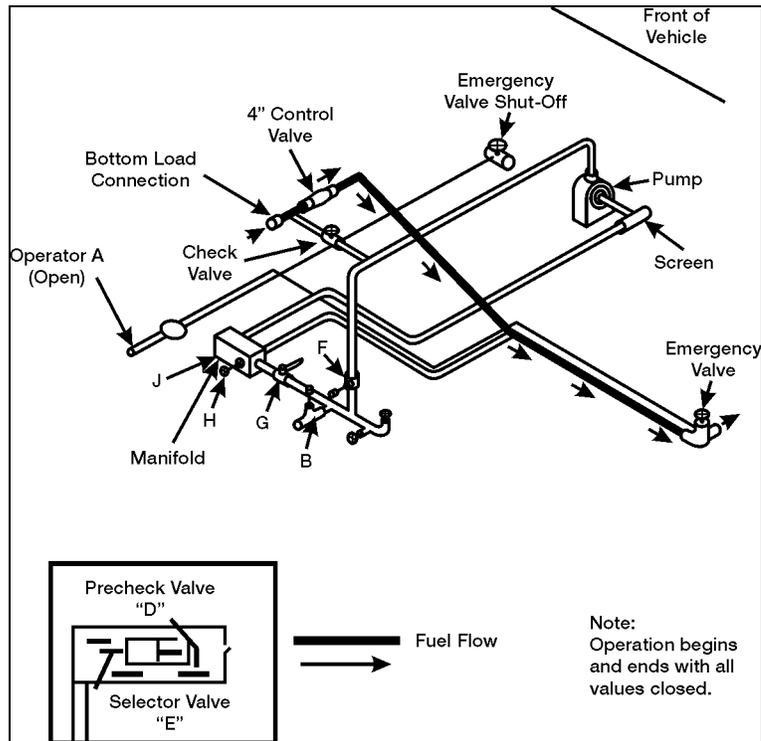

Figure 3-70. Self-Load Flow Diagram
- (8) After the flow has begun, open the pre-check valve to pre-check the shutoff float. Flow should stop after about 20 to 25 seconds to indicate that the float is functional. If it is not working, stop all operations and notify higher maintenance.
- (9) Close the pre-check valve. The flow will resume in about 20 seconds. Be prepared to stop the fuel supply at the loading facility in event of shut-off float malfunction, if leaks are apparent, or other unusual condition are seen.
- (10) When tank is full, the flow should stop automatically. Close all valves, replace all covers, and disconnect the hoses.
- (11) Drain the accumulated water in the same manner as stated in 1a(8) above for top loading.
- (12) Remove the grounding wires.
- (13) Stow fire extinguishers.
- c. Self-loading using vehicle engine and pump (see Figure 3-70). Product is not filtered.
- (1) Ensure all valves are closed.
- (2) Ground and bond the vehicle.
- (3) Remove fire extinguishers and bring to point of operation.
- (4) Start the engine and pump (see item 1 as necessary).
- (5) Adjust idle speed on pump to 1000 to 1200 rpm.